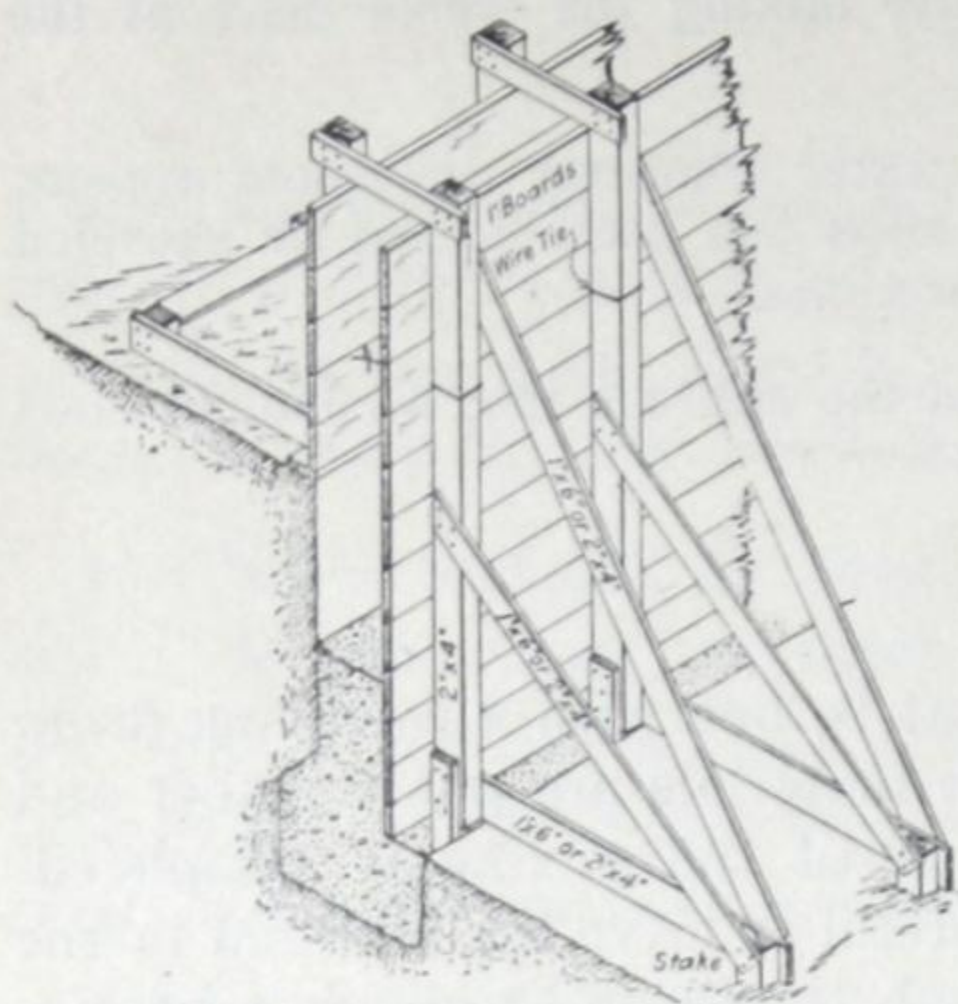

Fig. 9—Forms for foundation walls built in solid earth.
65. Figure 9 shows the construction of a form for a foundation wall where the soil is firm enough to act as a form for one side of the wall. The wooden form, for the other side of the wall, is held up on stakes to permit the concrete to run out a little under the form and make a footing or broader base for the wall.